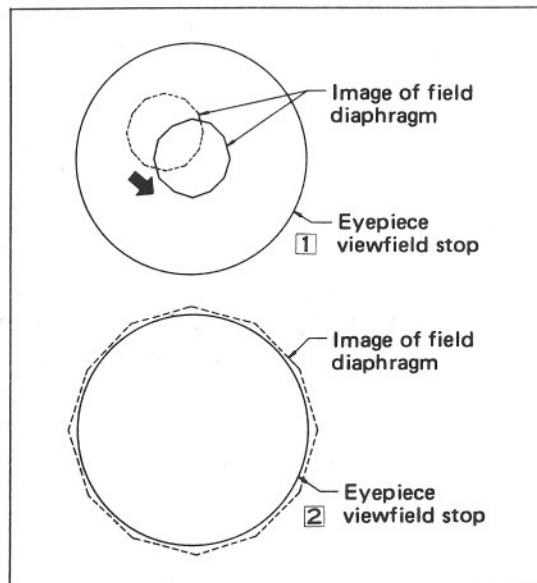

Fig. 19
- (1) Close the field diaphragm in the microscope base to its smallest size by means of the field diaphragm control ring. Rotate the condenser focus knob to move the condenser vertically so that a sharp image of the field diaphragm is formed on the specimen surface.
- (2) Bring the field diaphragm image to the center of the field of view by means of the condenser centering screws. (Fig. 19- ①)
- (3) Change over to the 40X objective, and adjust the field diaphragm so that the image of the diaphragm is about the same as that of the field of view, as shown in Fig. 19-②. If not centered, use the condenser centering screws again.